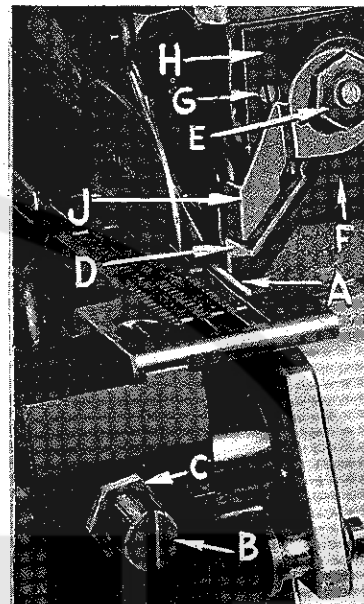

Fig. 13
Replace lower knife holder assembly. Lower knife (A, Fig. 13) should be set with cutting edge flush with throat plate surface. Adjustments are made with hexagonal head screw which holds lower knife. Lower knife is spring pressed against upper knife, so no lateral adjustment is necessary when width of trim is changed.
Replace upper knife assembly. Clamp upper knife (D, Fig. 13) in position, setting nut (E) to hold clamp (F) in its most clockwise position against upper knife. At bottom of its stroke, front cutting edge of upper knife should extend not less than $1/64$ inch below cutting edge of lower knife. The chain guard (J) should be set down against the upper knife and slightly back from the cutting edge.